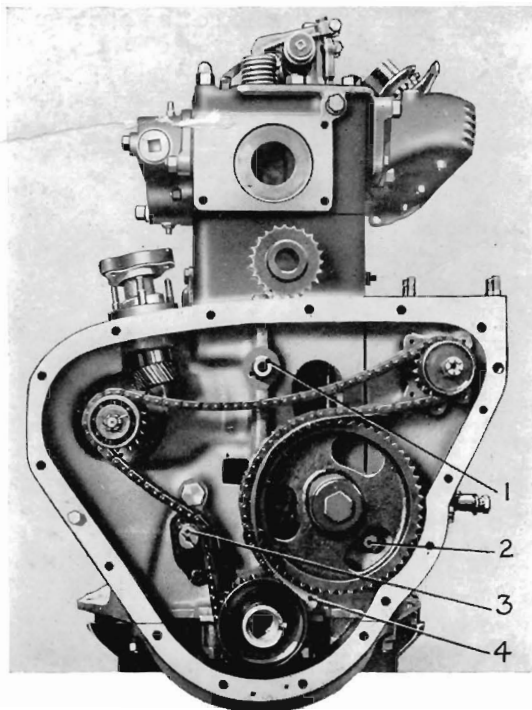

Fig. 17.
cover (see "Timing Gear") and remove the timing chain by taking out a link (see "Removal of Timing Chain"). The two screws at (2), Fig. 17, securing the thrust washer, can be removed through the holes in the camshaft sprocket and the camshaft withdrawn. The sprocket is keyed on the camshaft (two keyways giving a $\frac{1}{2}$ tooth variation, being provided to assist in timing when a new sprocket is fitted) and secured by a nut and tab washer. It is not necessary to remove the aluminium plug behind the camshaft. If the thrust washer is badly scored or worn a new one should be fitted; end play on the camshaft with a new thrust washer should be from .0025 in. to .0045 in.
Feed in the camshaft, tighten up the thrust washer and replace the tappets in their brackets. Rivet up the timing chain before fitting the idle sprocket at (1), Fig. 17, and chain tensioner (see "Replacing Timing Chain").
Set the valve clearances on No. 1 cylinder to .020 in. both inlet and exhaust, with the tappets on the backs of the cams. Insert a piece of thin sheet metal or stout paper at (4), Fig. 17, to hold the chain clear of the camshaft sprocket.